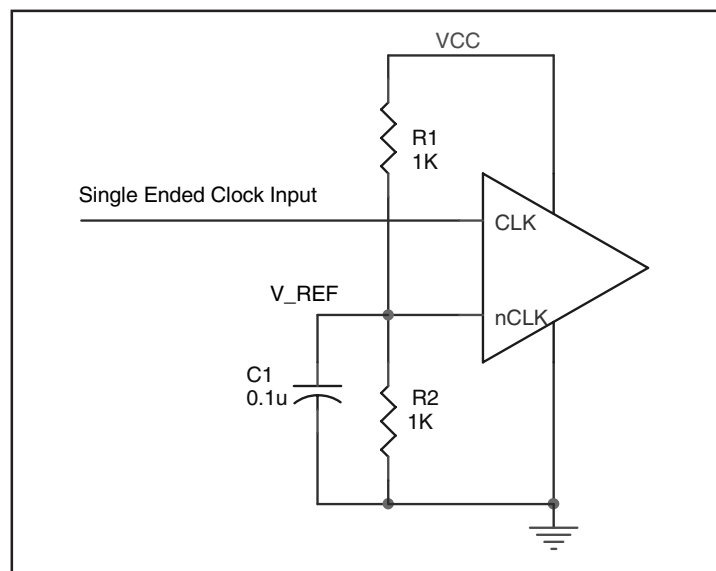

FIGURE 4. SINGLE ENDED SIGNAL DRIVING DIFFERENTIAL INPUT
*Figure 4* shows how the differential input can be wired to accept single ended levels. The reference voltage  $V_{REF} = V_{CC}/2$  is generated by the bias resistors  $R_1$ ,  $R_2$  and  $C_1$ . This bias circuit should be located as close as possible to the input pin. The ratio